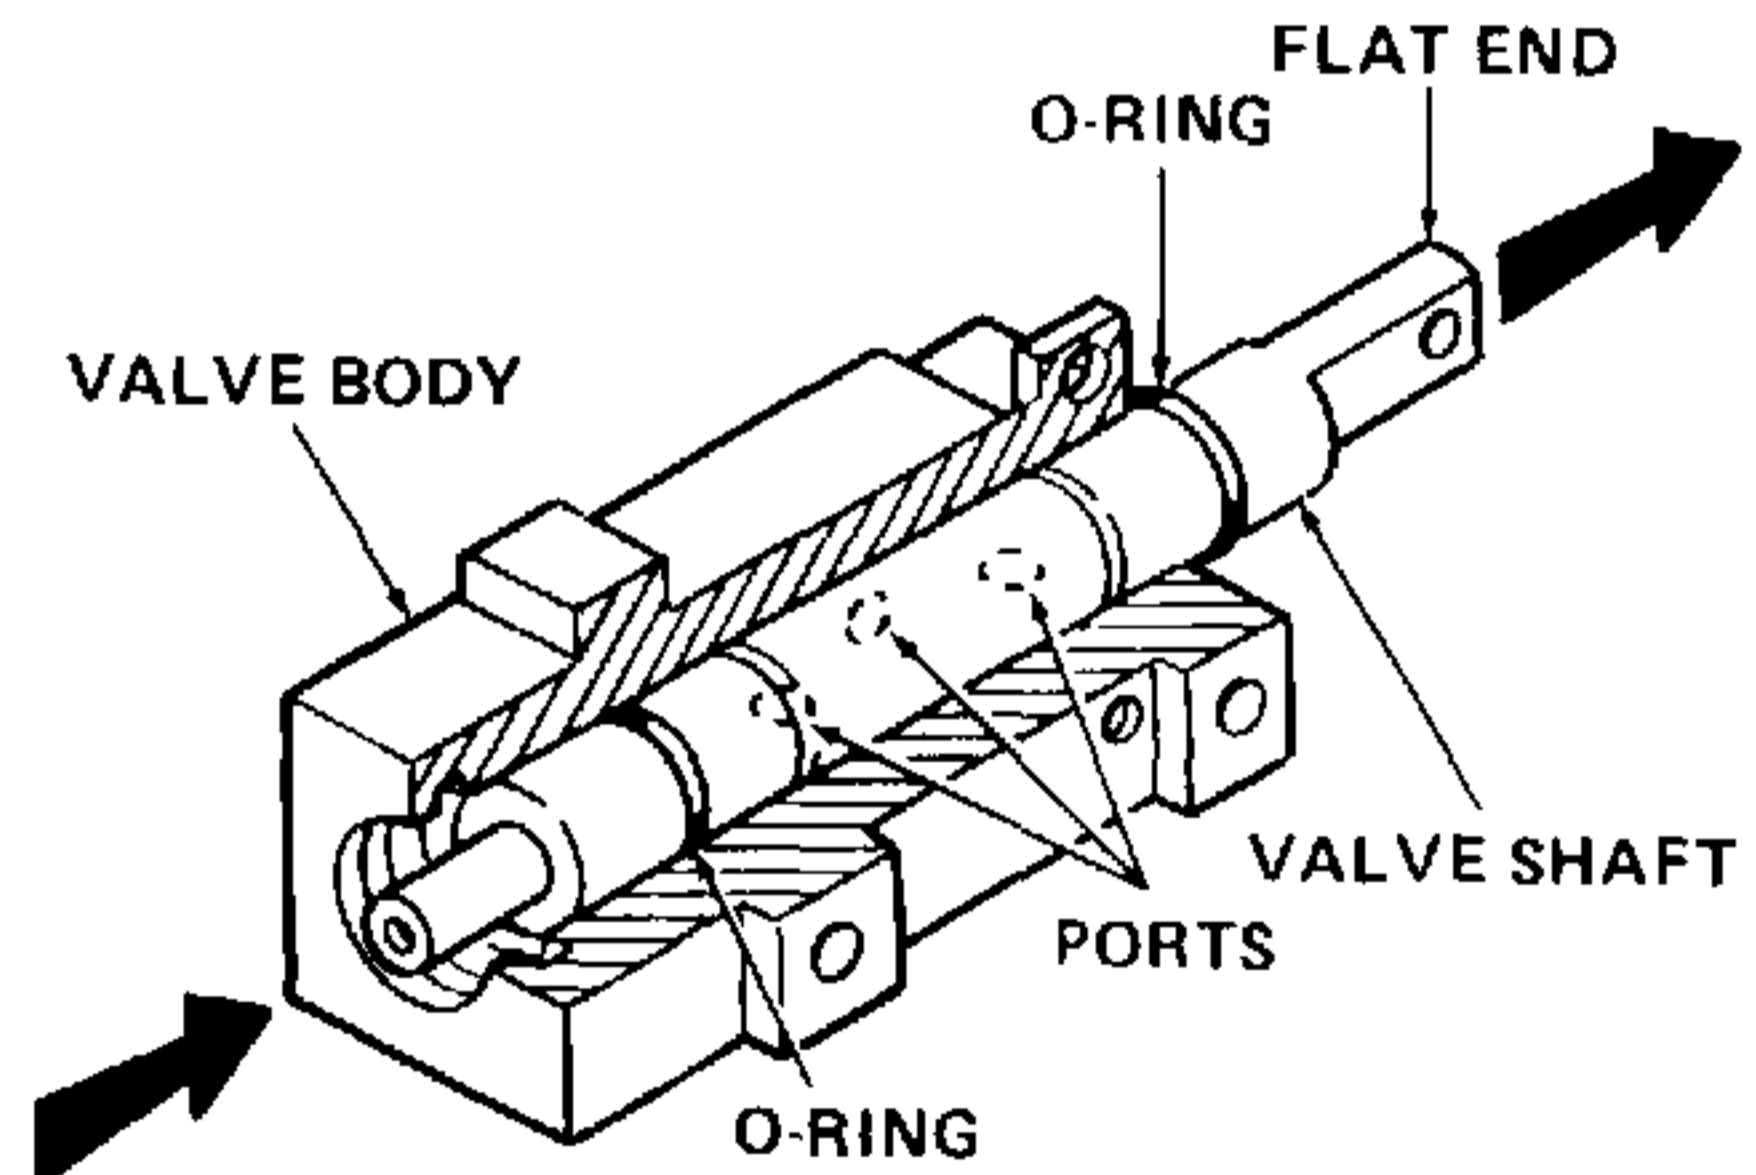

Figure 5-54A. O-Rings Correctly Installed on Valve Shaft.
- d. Place O-ring (32, Figure 5-51A) on O-ring groove on flat end of shaft. Refer to Figure 5-54A.